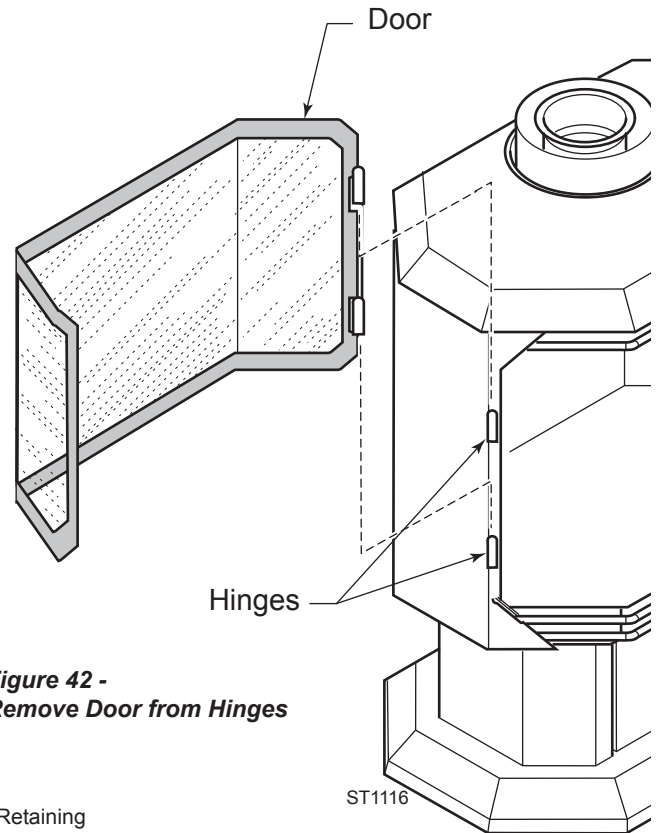

Figure 42 - Remove Door from Hinges
1. Put on gloves. Remove door from hinges by lifting the door up. *Figure 42*
9. Slide door back down the hinges. *Figure 42*